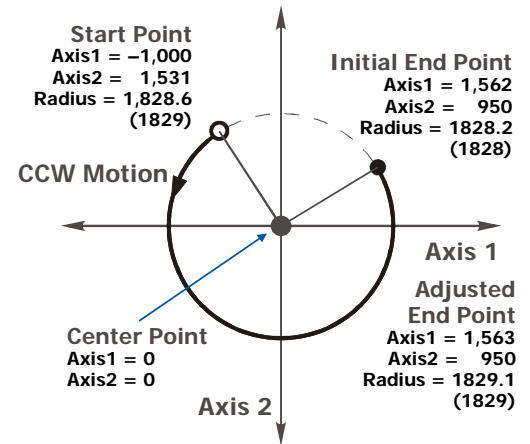

Figure R4.7 Round Off Error Example
Figure R4.7 is an example of this problem. The radius from the Center Point and Start Point is approximately 1,828.6, which is rounded to the integer 1,829 by the IANF2(E). The radius from the Center Point and End Point is approximately 1,828.2, which is rounded to the integer 1,828. Because these radii differ by one count, the IANF2(E) will refuse to run the move.